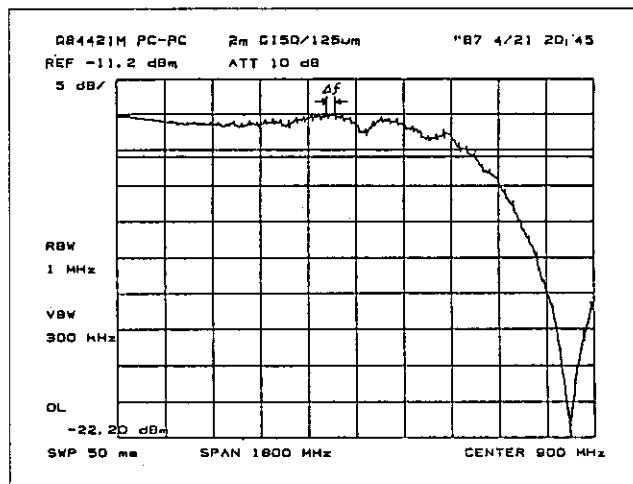

Figure 2-4 Ripple in Frequency Characteristic by Light Reflection
- (1) For an optical connector, use a PC-type connector or a connector with the surface polished obliquely to prevent the influence of reflection (see Figure 2-4).
Connect a measured fiber to the V-groove connector (see Figure 2-4).
① Cutback
1. Cut a measured fiber at the point 1 to 3m away from V-groove connector (A).
2. Remove the measured fiber (long data) from V-groove connector (B).
3. Connect the remaining measured fiber (short data) to V-groove connector (B) (see Figure 2-4).
② Level adjustment